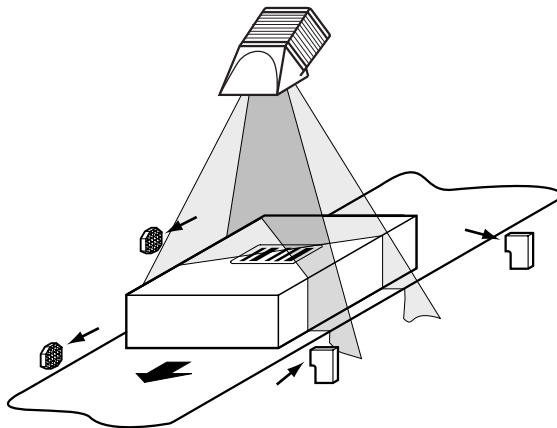

Figure 6.2: Cleaning the external optical sensors
- Also clean the optical surfaces of sensors (e.g. retro-reflective photo electric sensors) for external reading cycle generation and/or object height detection (Figure 6.2). Fouling may cause erroneous switching.